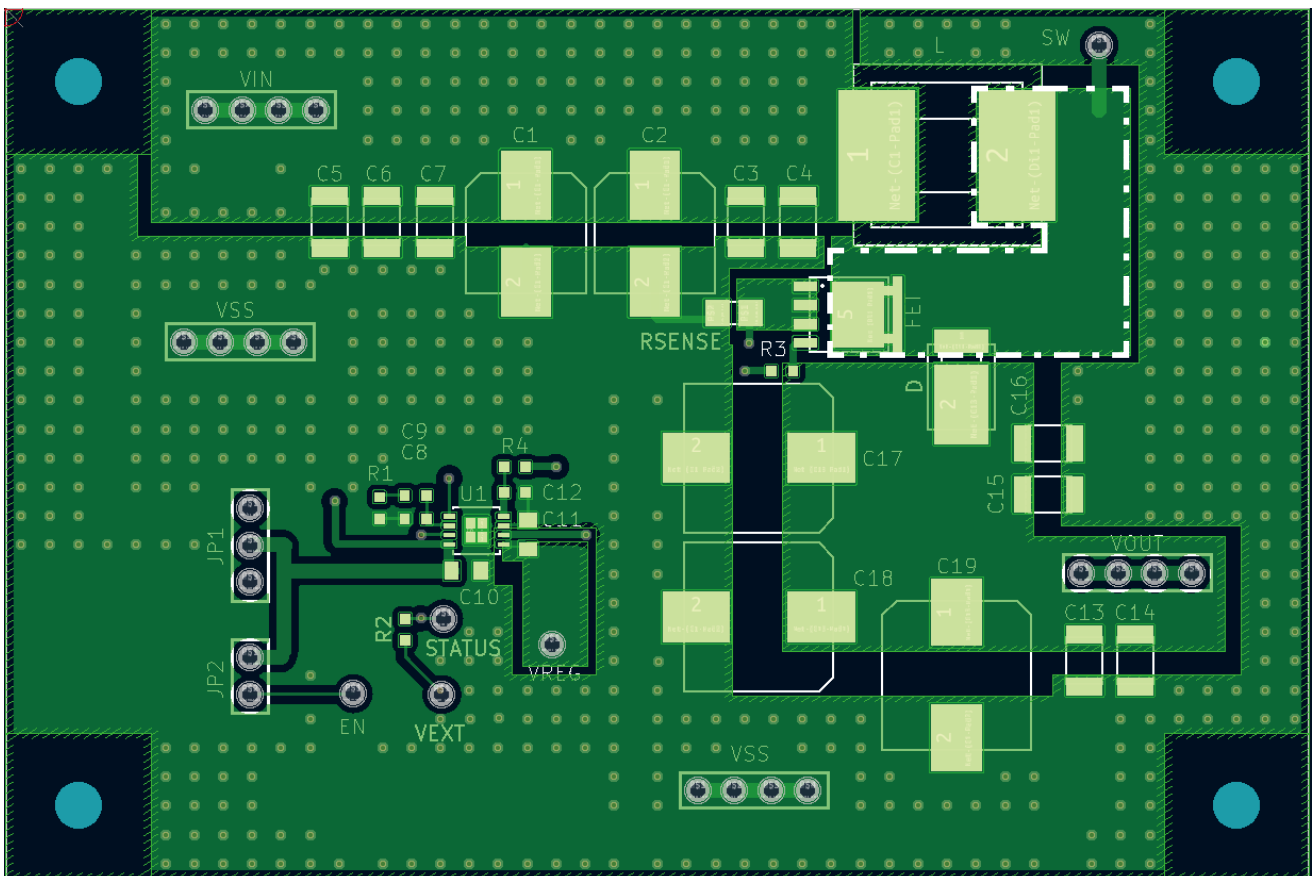

Figure 12 Reference Board Pattern
- The switching node (SW) wiring area (Dashed line area in "Figure 12 Reference Board Pattern") should be as small as possible to reduce high-frequency radiation noise.